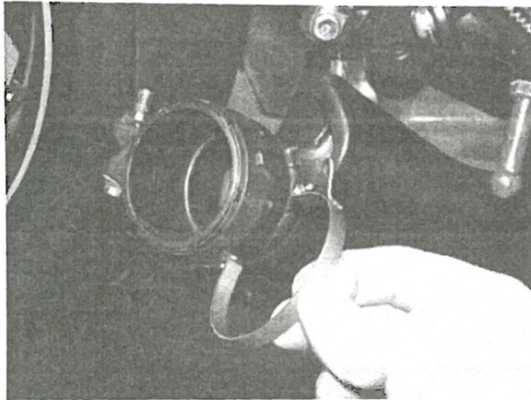

Figure 30
5. **For SLIP-ON (without optional link-pipe!) only:** correctly install clamp with hook for spring (Figure 30, 31).